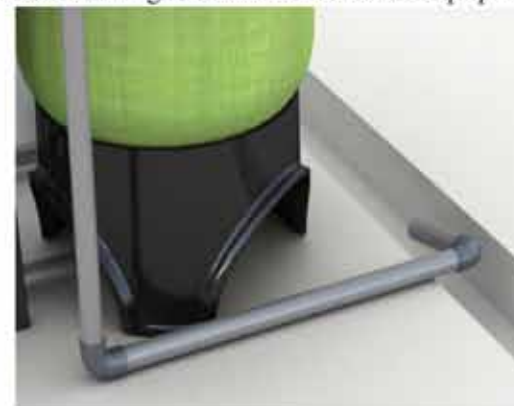

Figure 1-4
- Glue the drain outlet with UPVC (DN40). Put drain outlet pipe to sewer as showed in the Figure 1-4.